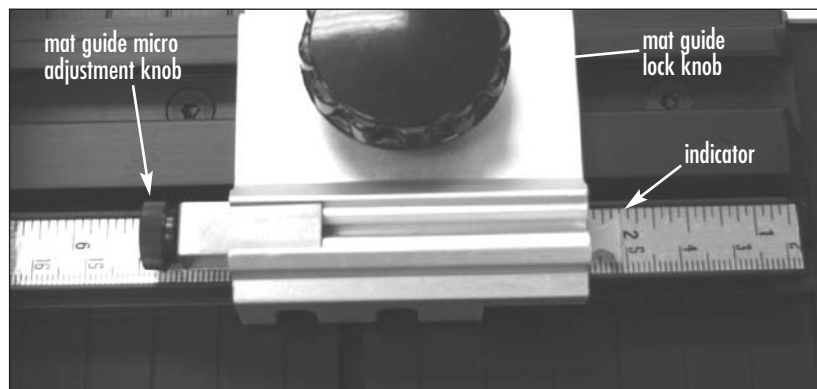

Figure 27
**Mat Guide** Fine tuning the width of the border is done on the mat guide. If you need to make the border width a bit narrower, turn the mat guide micro adjustment knob counter-clockwise. Conversely, turning the knob clockwise will widen the border width slightly (Figure 27).